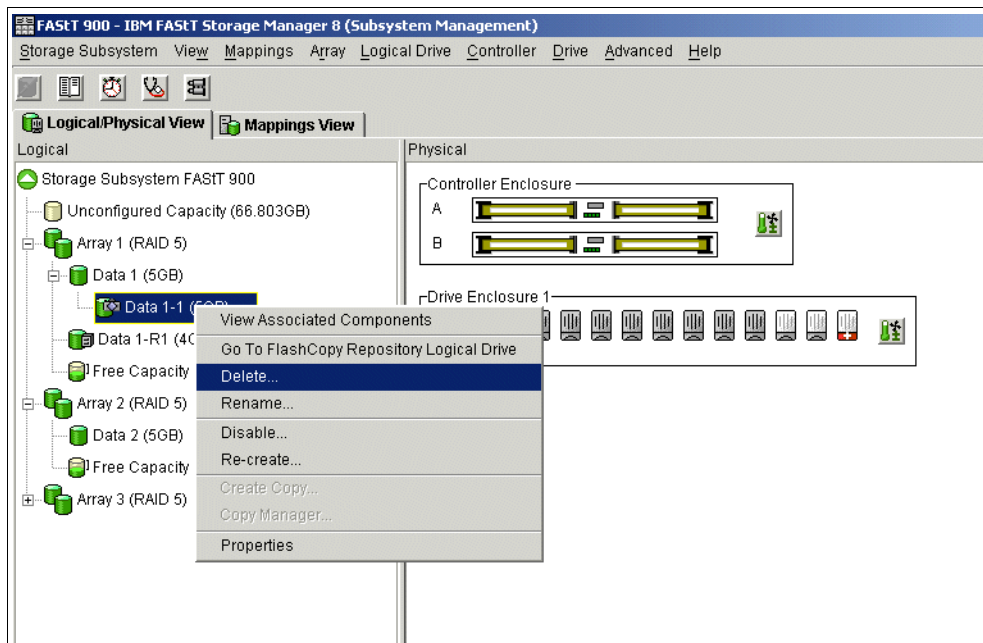

Figure 7-47 Deleting the FlashCopy Logical Drive
2. Click **Logical Drive -> Delete**, or right-click and select **Delete**, as shown in Figure 7-47.